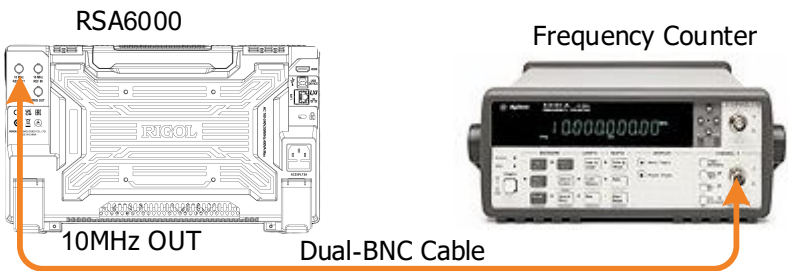

Figure 4.9 10 MHz Reference Output Accuracy Test Connection Diagram
- 1. Connect the [10 MHz REF OUT] terminal on the rear panel of the spectrum analyzer with the frequency counter, as shown in *Figure 4.9*.